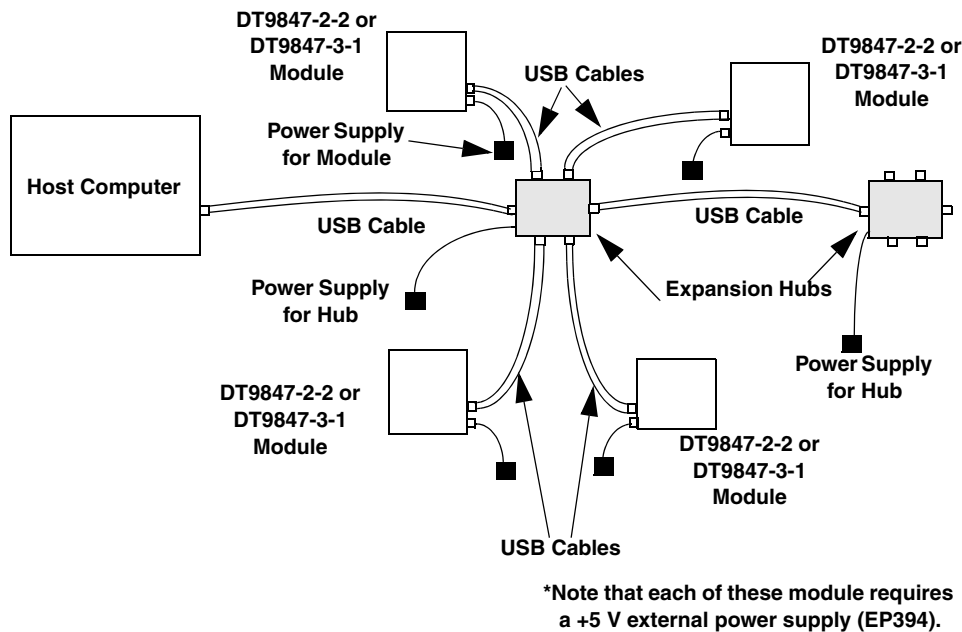

Figure 9: Attaching Multiple DT9847-2-2 and DT9847-3-1 Modules Using Expansion Hubs
3. Connect the expansion hub to the USB port on the host computer using another USB cable. Figure 9 shows how to attach DT9847-2-2 and DT9847-3-1 modules to an expansion hub.